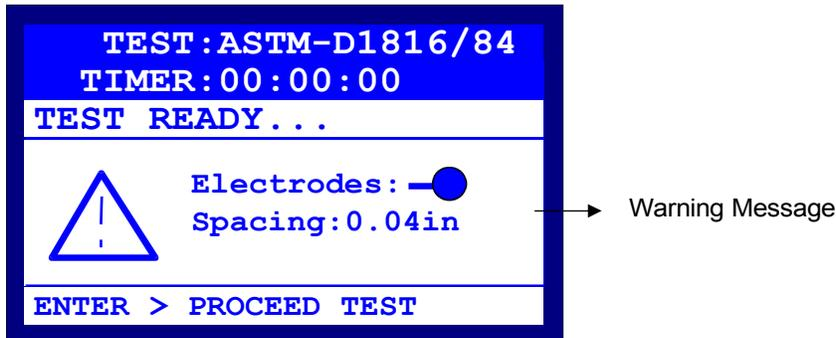

Figure 1.6a – 'Electrodes/ Space' Warning Message
2. **Verify Electrode/Gap Spacing**, Figure 1.6a/b.
This warning message is displayed at the startup of every test procedure, in order to remind the user to check the electrodes type and spacing, according to the selected test. If the selected test is a Standard Test or User Defined Test one (where the spacing and the type of the electrodes is specific) the message will inform the user for the appropriate settings (type, spacing), Figure 1.6a. The user may proceed by pressing the '**ENTER**' key.